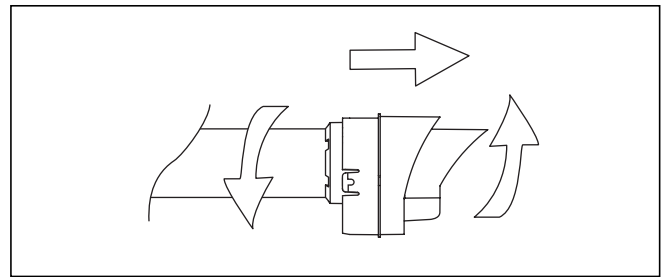

Fig. 2.20 Unlocking the catch
- Unlock the catch between the terminal and the flue duct by twisting them against each other (fig. 2.20).